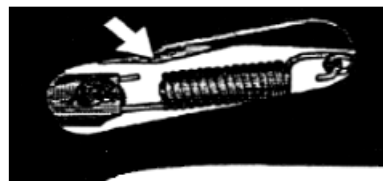

Figure 1
Repair: Remove metal from the flange with a grinder or cutter (Figure 1).
- Grind/cut the metal flange until a 5.0 mm clearance is reached (arrow in Figure 1).